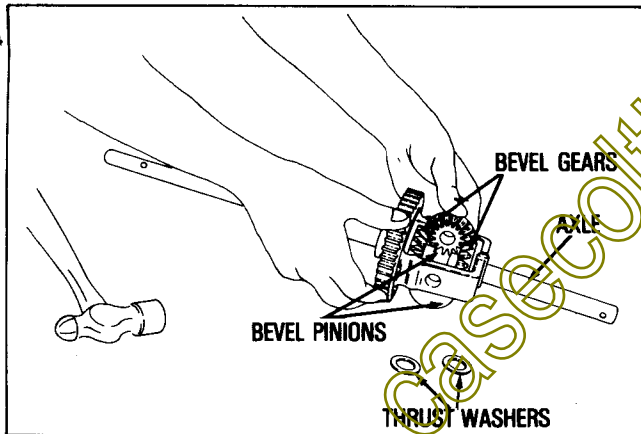

FIGURE 25
3. Install bevel pinions SIMULTANEOUSLY FROM OPPOSITE SIDES by rotating pinions in opposite directions while sliding into position in gear assembly. (Figure 25). Check alignment by inserting fingers into drive pin holes. If not aligned, drive pin cannot be inserted. Remove and replace bevel pinions as only one tooth out of position will cause misalignment.